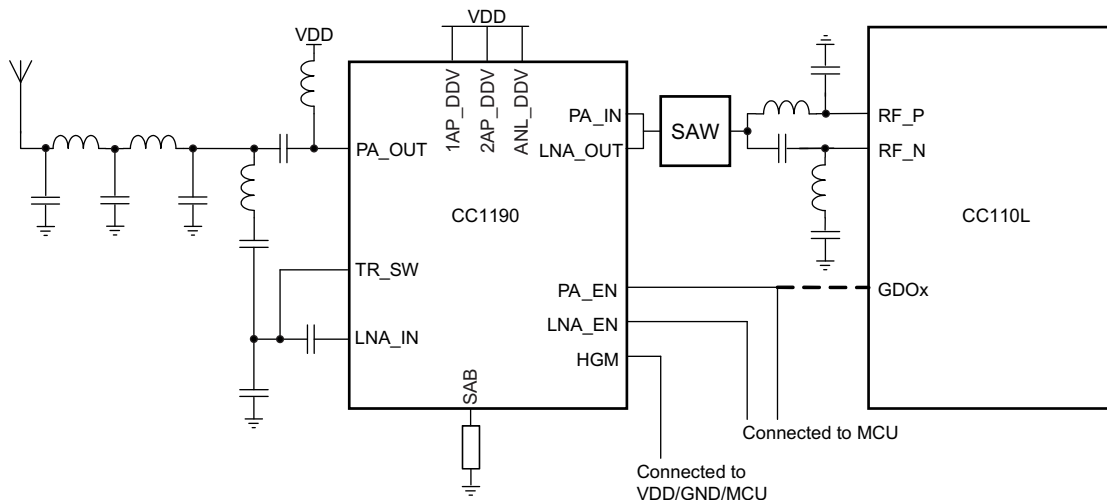

Figure 5-16. Simplified CC110L-CC1190 Application Circuit
In some applications it may be necessary to extend the range. The CC1190 SWRS089 is a range extender for 850-950 MHz RF transceivers, transmitters, and System-on-Chip devices from Texas Instruments. It increases the link budget by providing a power amplifier (PA) for increased output power, and a low-noise amplifier (LNA) with low noise figure for improved receiver sensitivity in addition to switches and RF matching for simple design of high performance wireless systems. Refer to AN094 SWRA356 and AN096 SWRA361 for performance figures of the CC110L and CC1190 combination. Figure 5-16 shows a simplified application circuit.